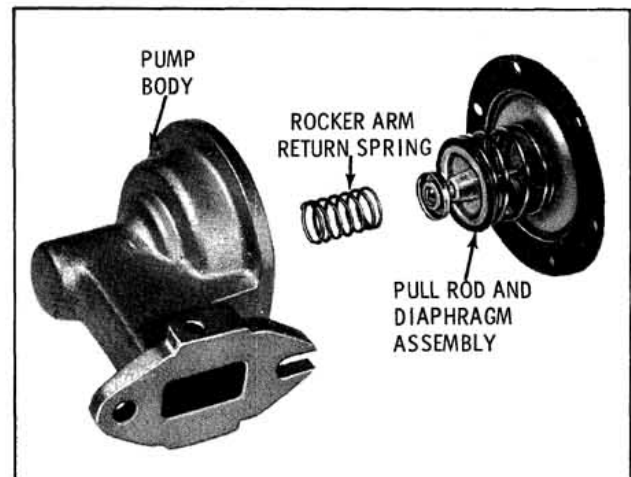

Fig. 3-137 Fuel Pump - Exploded View
2. Install the rocker arm spring in the pump body making sure that the spring is properly seated in the pull rod end of the diaphragm assembly. (Fig. 3-137)